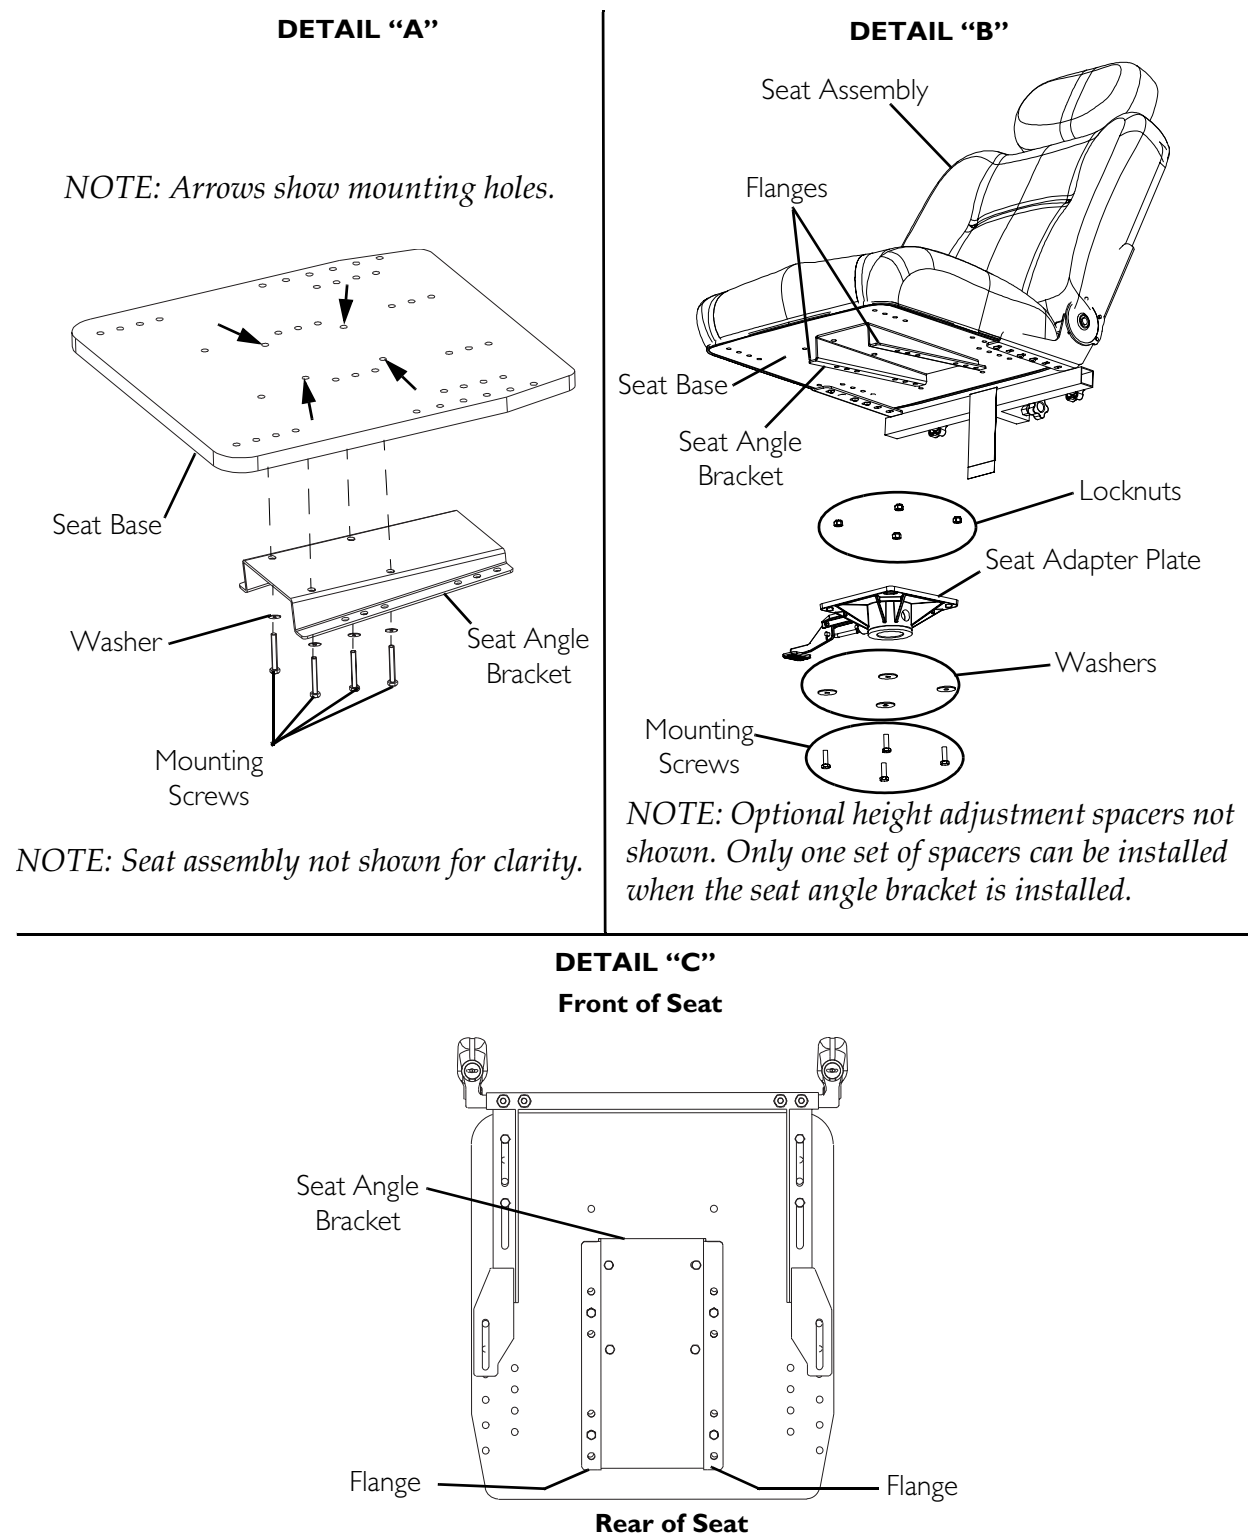

FIGURE 7.7 Installing Seat Angle Bracket for 5° Tilt
NOTE: For this procedure, refer to FIGURE 7.6 and FIGURE 7.7.
3. Align the mounting holes on the seat angle bracket with the mounting holes on the seat base (Detail “A” of FIGURE 7.7).
4. Using the four 3 cm mounting screws and washers from the seat angle bracket kit, secure the seat angle bracket to the seat base (Detail “A” of FIGURE 7.7).
5. Determine the correct mounting holes on the flanges on the seat angle bracket to achieve the proper seat position (Detail “C” of FIGURE 7.7).